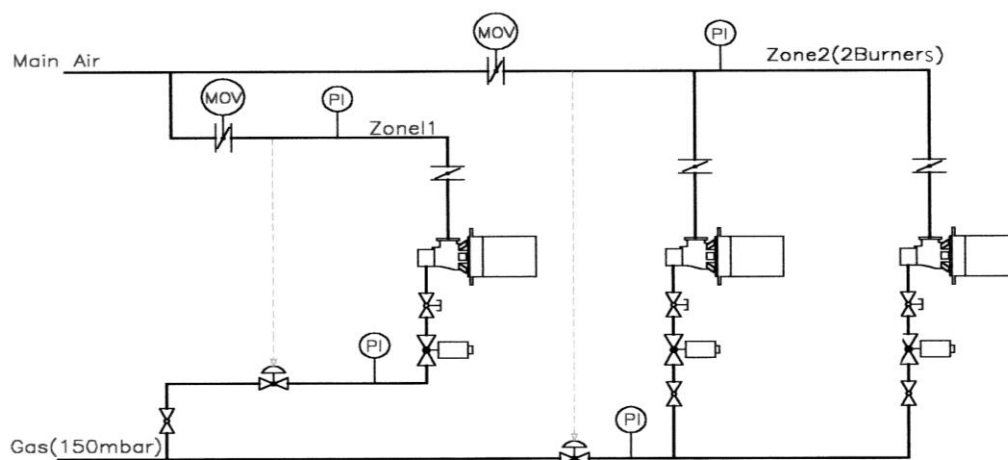

Fig. 1 Suggested Piping Arrangement for MGLK Burners
- Pipe lines in a manner similar to that shown in Figure 1. Flexible connections are recommended in air and fuel lines to minimize strain from piping and thermal expansion.
- Connect impulse piping as shown in Figure 1. These piping arrangements are designed to keep air and gas flows on desired ratio at all firing rates.